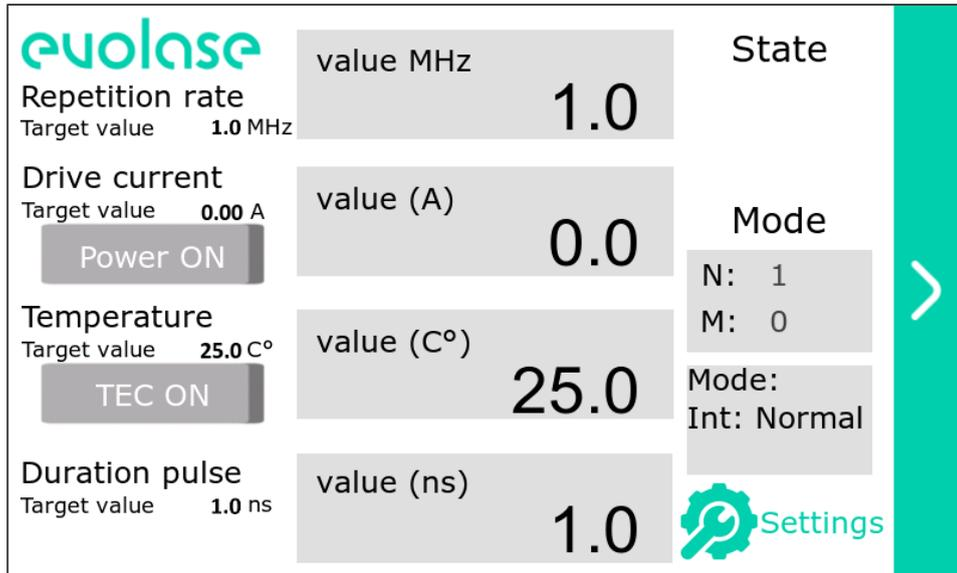

Figure 23 – NS driver menu
1. In NS driver menu (fig. 23) press  to go to the settings menu.